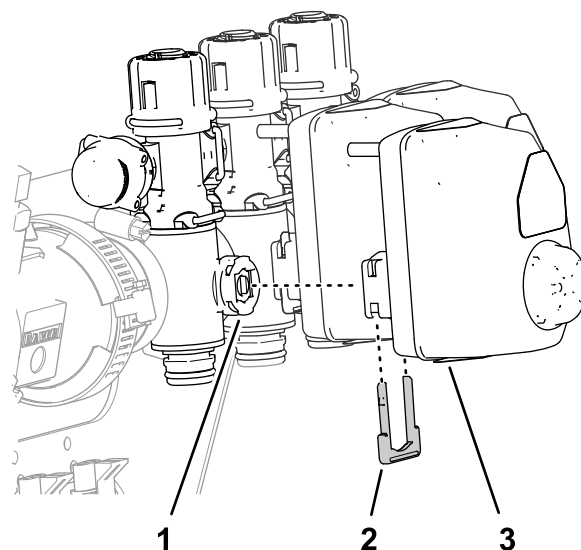

Figure 62
1. Remove the 3 retainers that secure the 3 valve actuators to the left, center, and right section valves (Figure 62).
2. Remove the valve actuators from the left, center, and right section valves (Figure 62).
10. Assemble the 3 valve actuators onto the left, center, and right section valves (Figure 62) with the retainers that you removed in step 1.